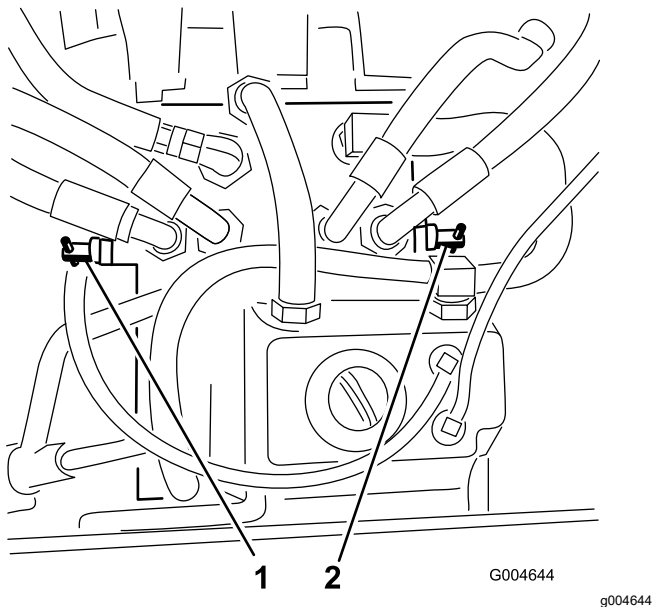

Figure 65
2. Locate the bypass valves (Figure 65) and rotate each bypass valve counterclockwise 1 turn.
4. Close the valves by rotating each valve 1 clockwise turn (Figure 65).